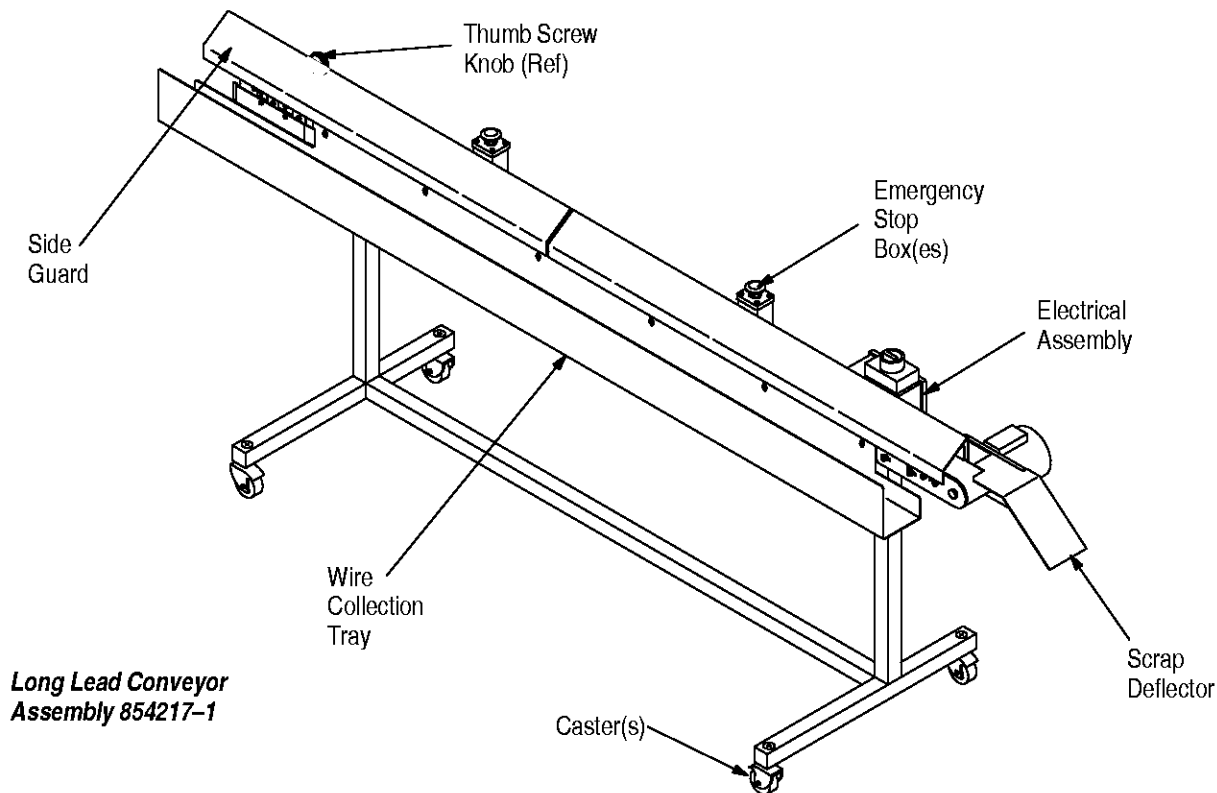

Figure 1
10. Install the long lead conveyor jumper plug into the electrical assembly. (Refer to Figure 1 for location of electrical assembly.)
8. Attach J70 to hole provided in frame. See Figure 1 of 90894-1.